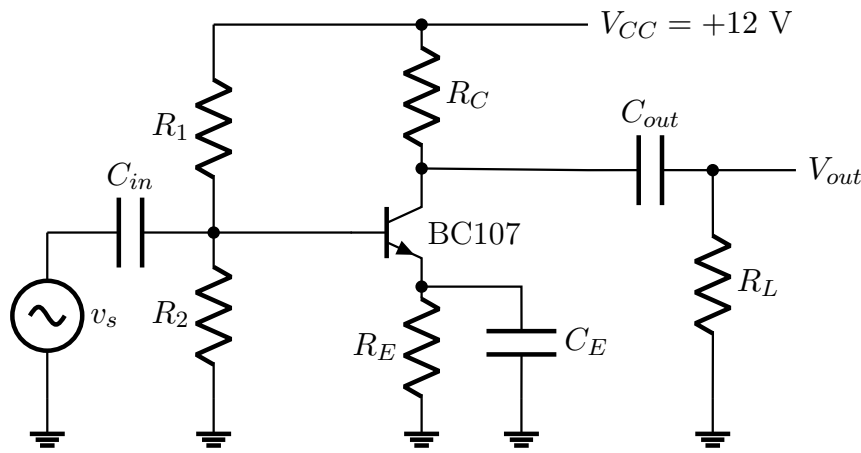

Figure 4.1: Single-stage RC-coupled CE amplifier with voltage-divider bias, emitter bypass capacitor C_E , and coupling capacitors C_{in} , C_{out} .
1. Assemble the circuit on the breadboard as shown in Figure 4.1 without connecting the signal generator and the load resistor R_L .